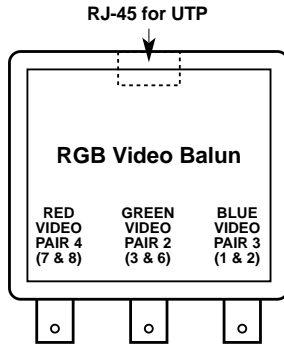

Figure 3-1. The Balun and its connectors.
7. Connect one end of a UTP cable to each Balun's RJ-45 modular jack, as shown in Figure 3-1. These cables must carry at least three wire pairs, and these wires must be pinned to RJ-45 Pins 1, 2, 3, 6, 7, and 8.